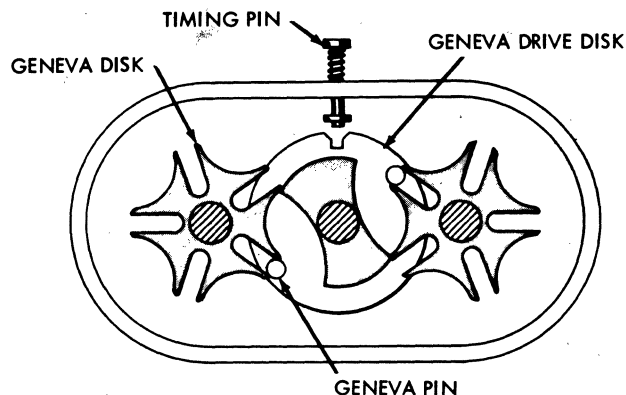

Figure 3-23. Geneva
1. Geneva timing pin should seat at 0° and at alternate cycle points throughout a machine cycle. See Figure 3-23.